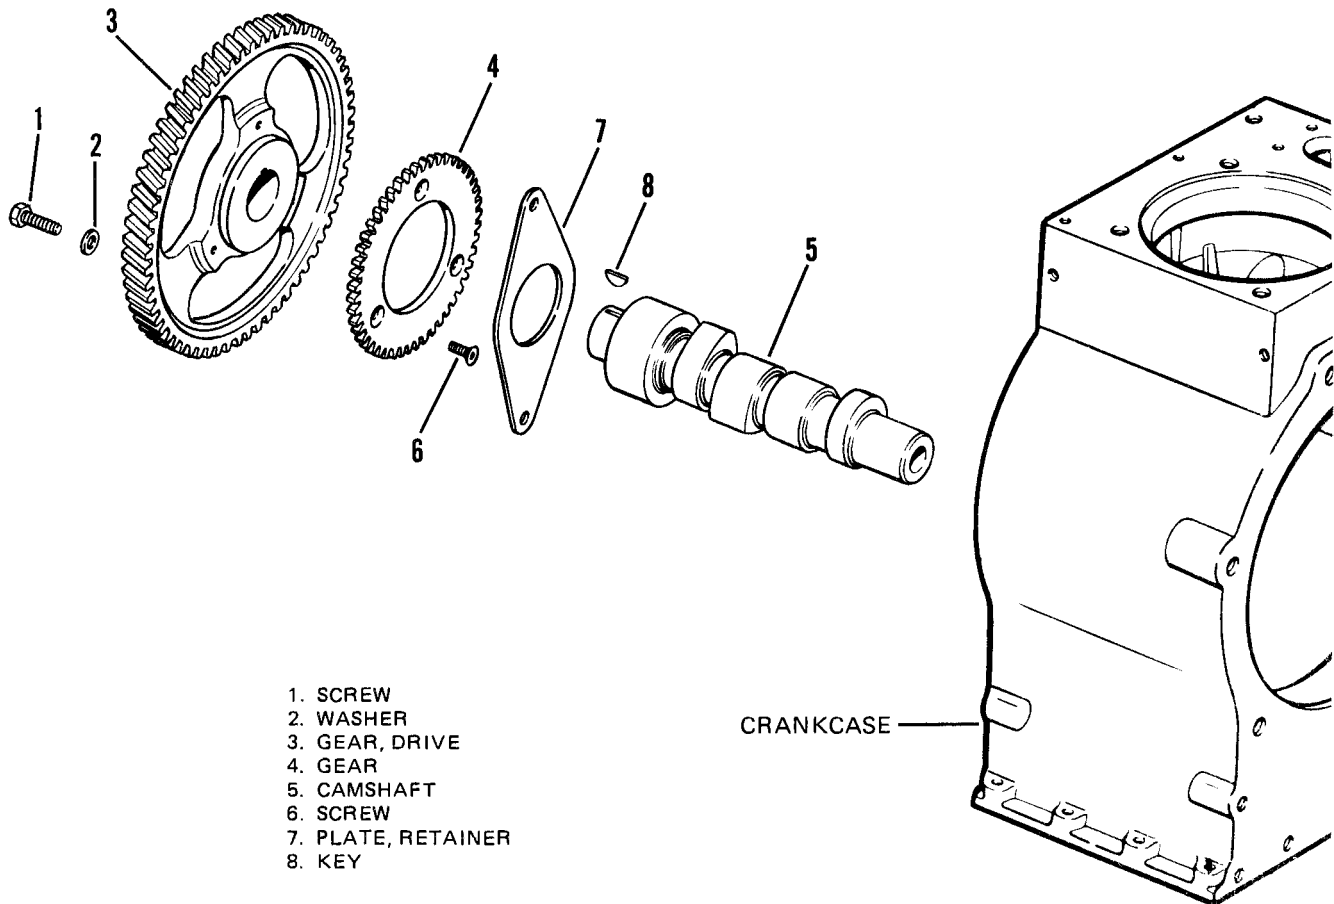

Figure 7-31. Camshaft.
- (1) Remove gear cover, refer to paragraph 7-12.
- (2) Remove cylinder head, refer to paragraph 7-6.
- (3) Remove push rod tubes and lifters, refer to paragraph 7-9.
- (4) Remove fuel transfer pump, refer to TM 05926B/06509B-12/TM 5-6115-615-12/NAVFAC P-8-646-12/TO 35C2-3-386-31 manual, paragraph 4-34.
- (5) Remove fuel injection pump, refer to paragraph 6-3.
- (6) Remove oil pump, refer to paragraph 7-14.
- (7) Remove screws (1, Figure 7-31) and washers (2).